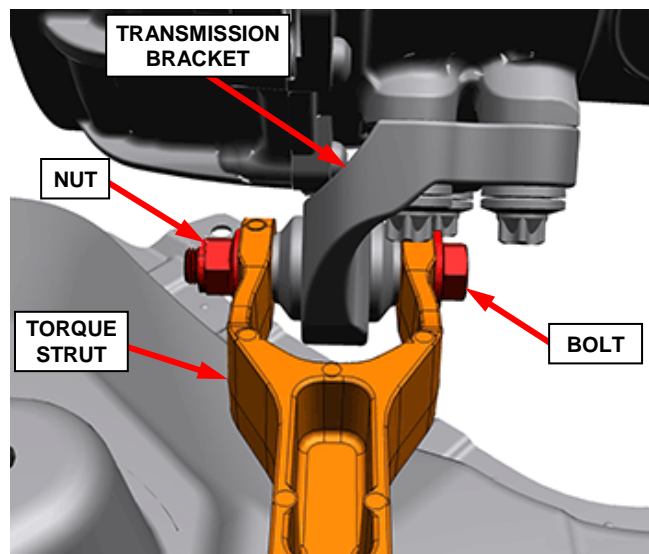

Figure 70 – Torque Strut
46. Remove the nut and bolt from the transmission pivot bracket end of the rear engine mount torque strut (Figure 70).